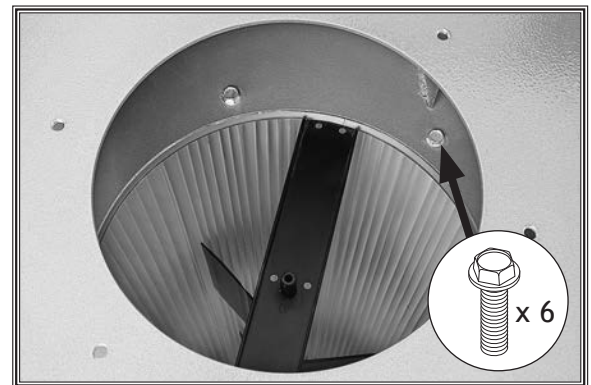

Figure 64. Remove flange bolts to remove canister filter assembly from impeller housing.
6. With assistant holding canister filter from below, loosen and remove (6) $\frac{5}{16}$ "-18 x $\frac{3}{4}$ " flange bolts securing canister filter assembly to impeller housing (see **Figure 64**).